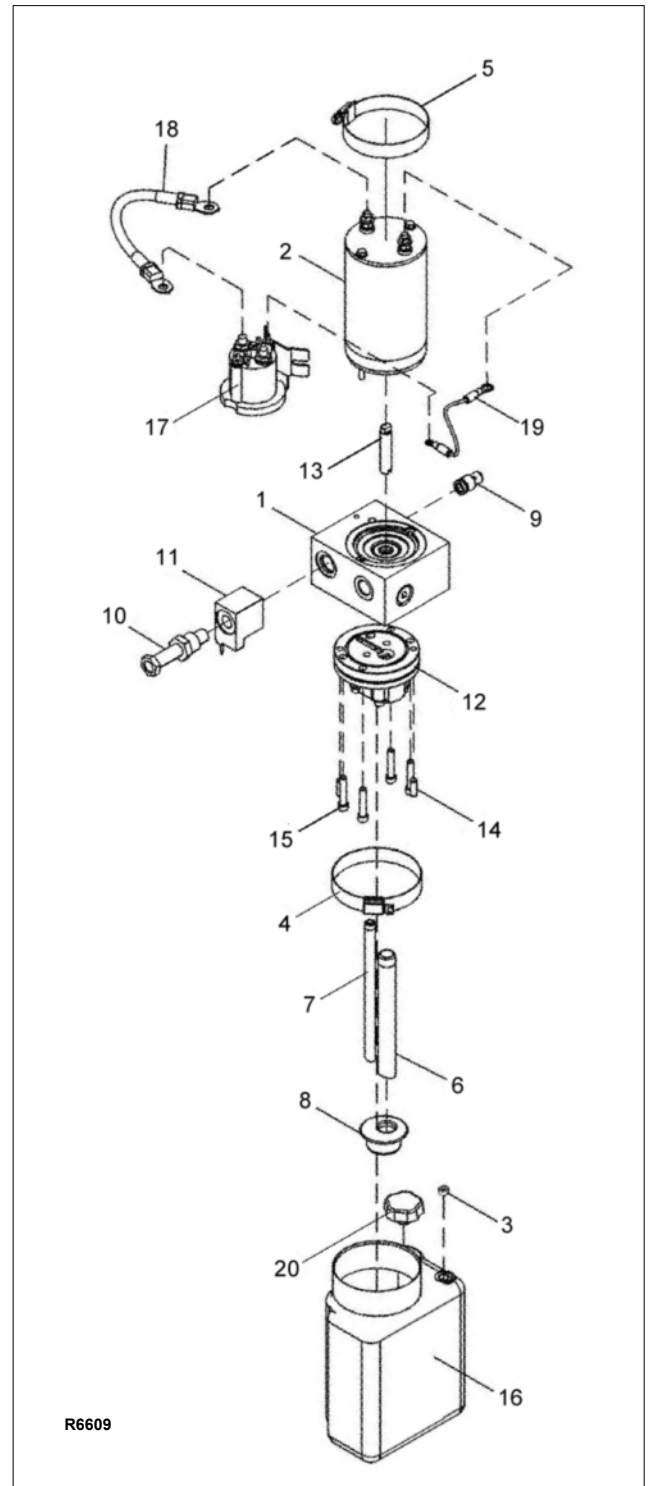

Figure 9-2 Pump and Motor Assembly
2. Refer to Figure 9-2 for disassembly and reassembly.
2. While supporting the pump/motor assembly (1), install two screws (19), two lock washers (3) and two flat washers (2).
3. Reconnect hose (6) to pump/motor assembly (1).
4. Connect electrical leads to motor (2, Figure 9-2) and solenoid (17).